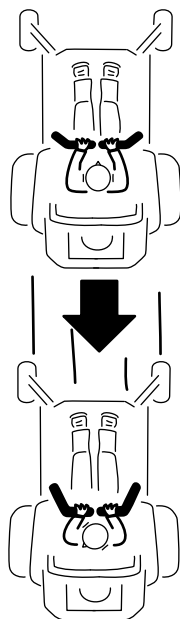

Figure 24
- 2. To go backward, slowly pull the motion-control levers rearward (Figure 24).